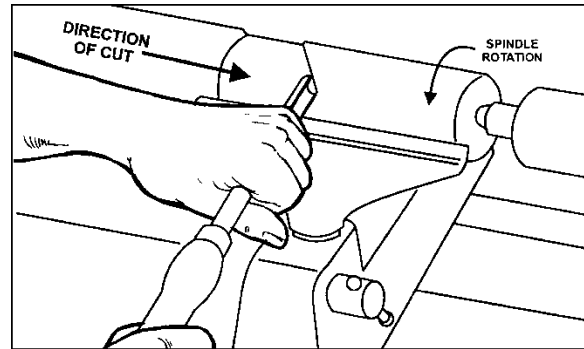

Figure 10-6: Roughing Out
3. Beginning about 2" from the tailstock end of the workpiece, roll the flute (hollowed-out portion) of the tool in the direction of the cut. See Figure 10-6. Make long sweeping cuts in a continuous motion to rough the piece down to a cylinder.